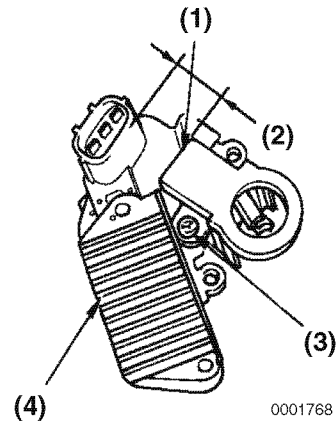

Figure 11-22
2. Install the brush holder (**Figure 11-22, (1)**) to the IC Regulator (**Figure 11-22, (4)**).
3. Maintain a gap of 0.047 in (1.2 mm) or more as shown (**Figure 11-22, (2)**).
4. Tighten the interior bolt (**Figure 11-22, (3)**).